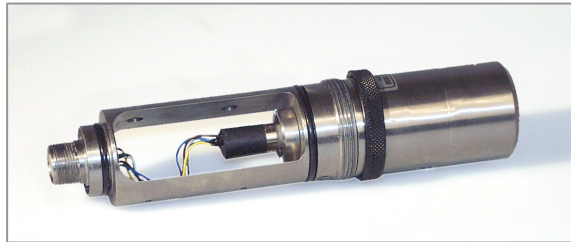

Figure 12
4. Gently pull out the internal plug connected to the Optode, refer Figure 12, Figure 13, and Figure 14.